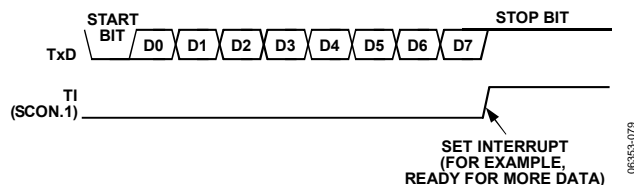

Figure 105. 8-Bit Variable Baud Rate
Transmission is initiated by a write to the serial port buffer SFR (SBUF, Address 0x99). Next, a stop bit (1) is loaded into the ninth bit position of the interval serial port shift register. The data is output bit-by-bit until the stop bit appears on TxD and the transmit interrupt flag (TI) is automatically set as shown in Figure 105.